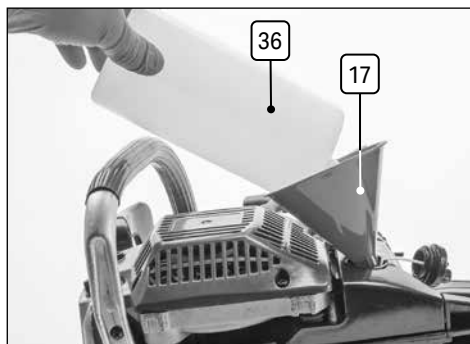
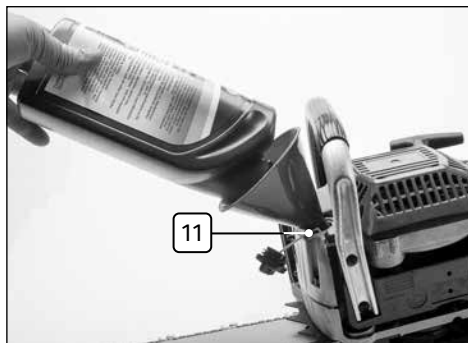

Fig. 9
Fig. 10
6.2 Fuelling and Lubrication (Fig.9 – Fig. 10)